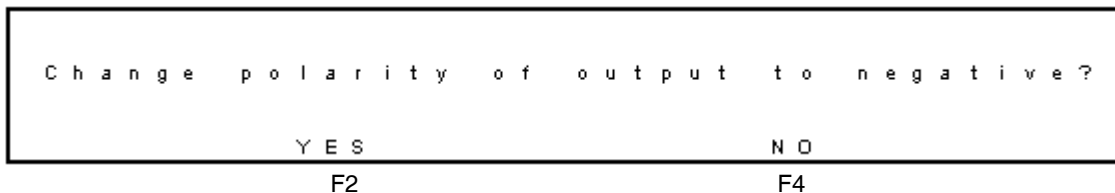

Figure 3-19 Change Polarity to Negative Screen
- If the polarity is positive, the Change Polarity to Negative screen appears (Figure 3-19). To change it to negative, select **F2 YES**. The DC Setup screen appears.